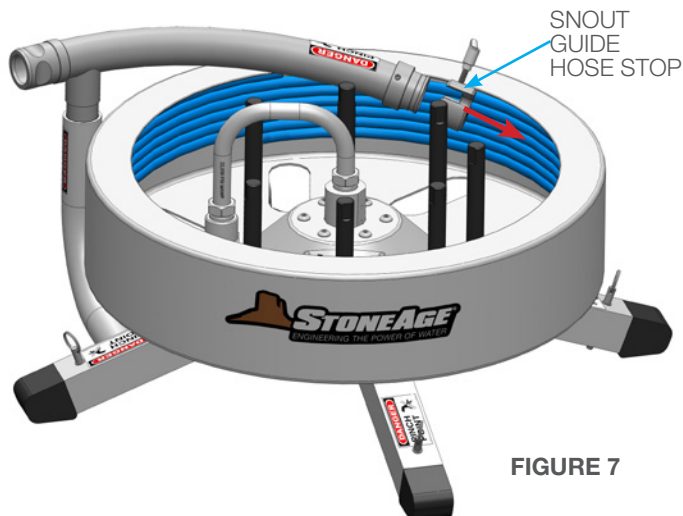

FIGURE 7
1. Remove the Snout Guide Hose Stop by releasing the Adjustable Handle and sliding the Stop off the Guide. **(Figure 7)**